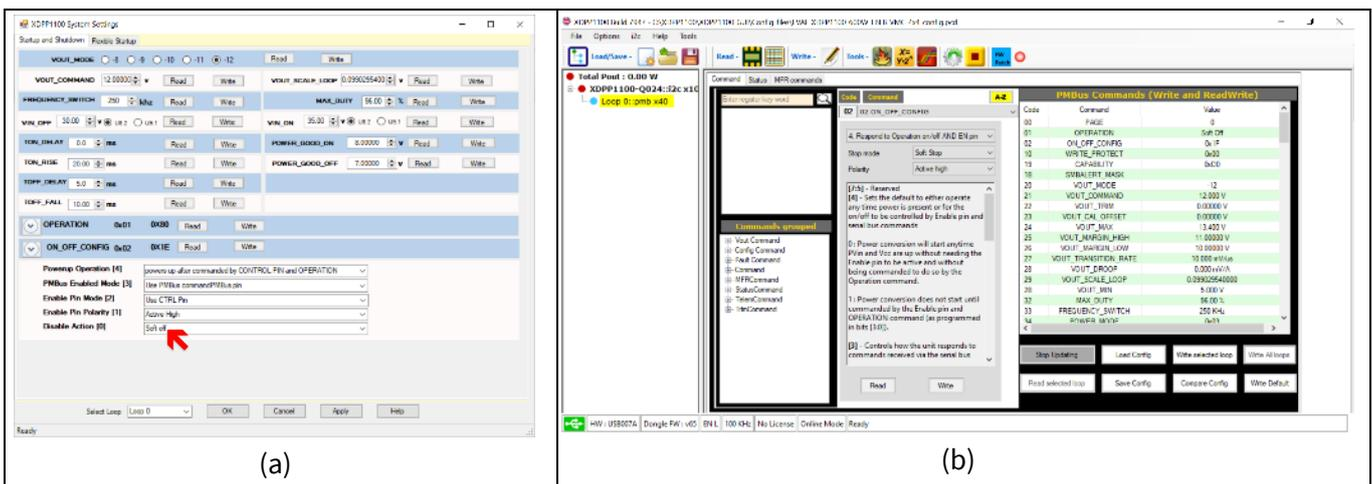

Figure 25 TOFF_DELAY feature
- **TOFF_DELAY** command sets the time, in ms, from when a stop condition is received (as programmed by the ON_OFF_CONFIG command) until the unit stops transferring energy to the output (**Figure 25**). Write the **Soft Stop** option for the **Stop mode** in the **ON_OFF_CONFIG PMBus** (Code 02) command to take advantage of **TOFF_DELAY** for soft shutting down (**Figure 25**).